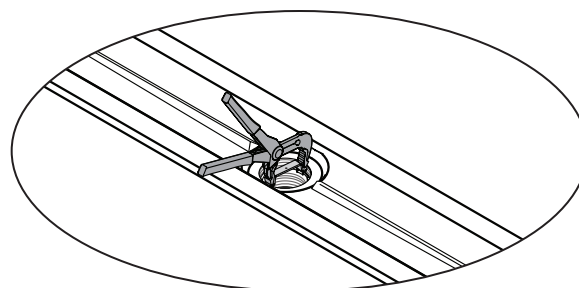

Figure 11
- 2** Using the adjustable pliers, snap the support bracket into the groove in the drain fitting. The top surface of the support bracket should be flush with the top surface of drain pyramids. (Figure 11)